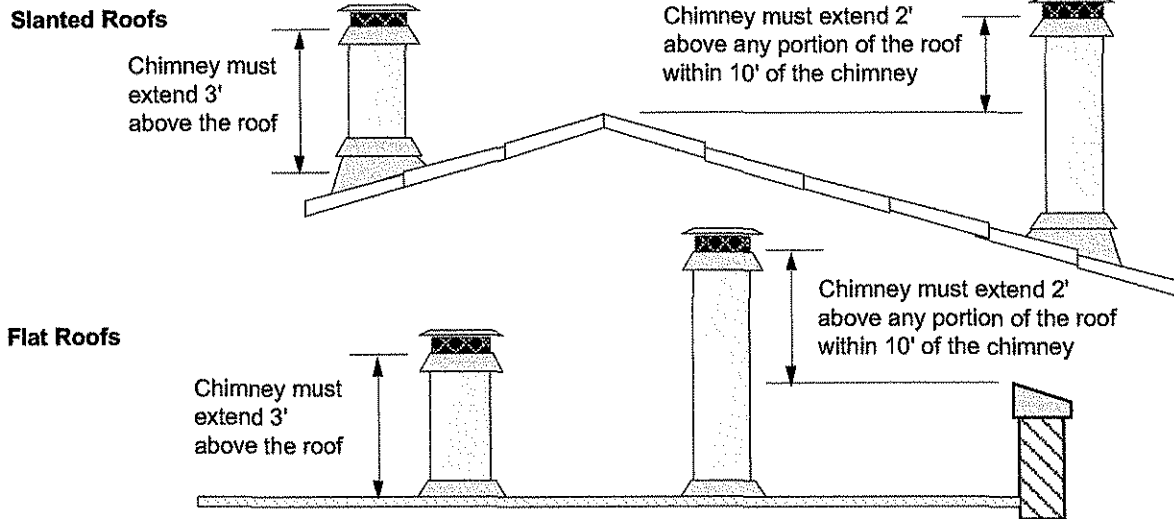

Figure 7
- Must terminate at least 3' above the roof **and** at least 2' above any portion of the roof within 10' (see Figure 7)